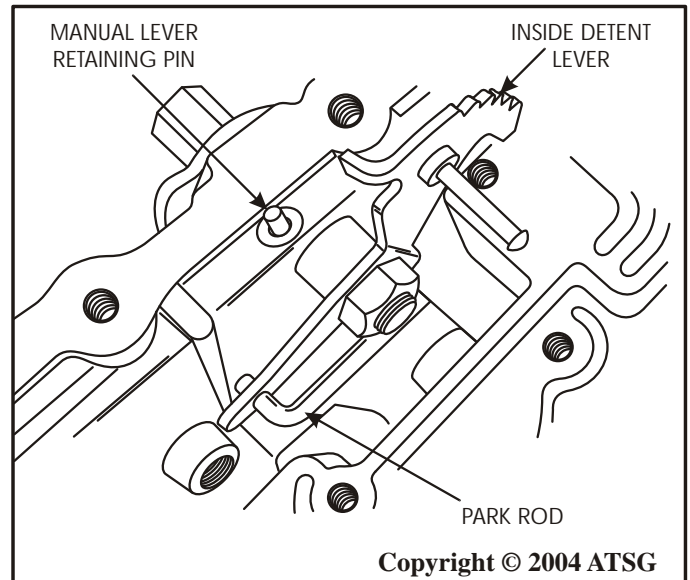

Figure 130
5. Install the manual lever, inside detent lever and park rod assembly, manual lever retaining pin and torque nut to 48Nm (35 ft.lb.). Refer to Figure 130.